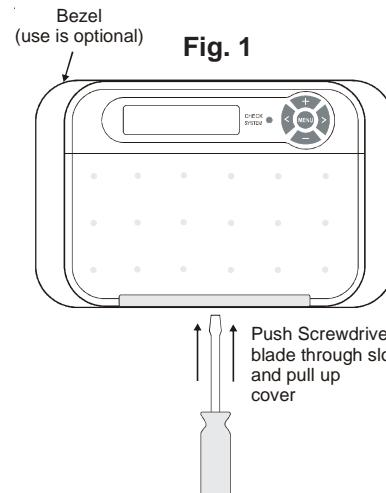

Fig. 1
- Remove display/keypad baseplate from the cover by inserting a screwdriver in the slot shown below. Lift up on the cover while pushing gently with the screwdriver. See Fig. 1.